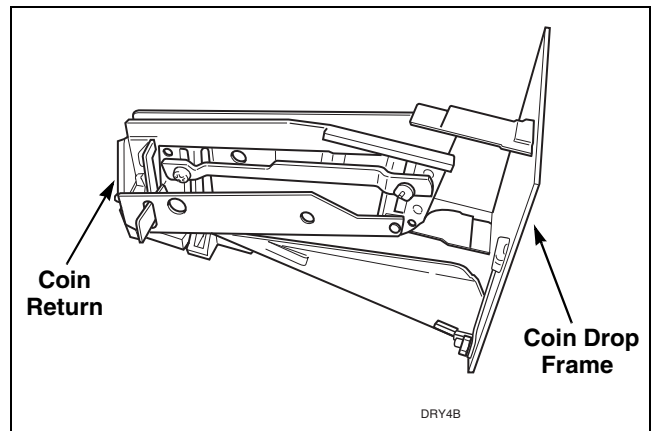

Figure 13
- Remove coin return from coin drop frame. Refer to *Figure 13*.